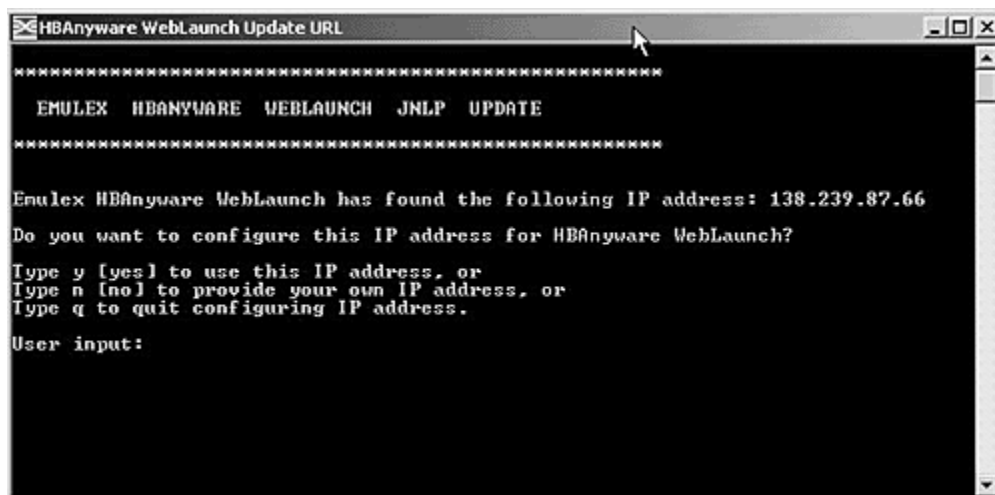

Figure 10: HBAnyware Web Launch, Update URL Dialog Screen
1. Click on **Programs**, **Emulex** and **HBAnyware WebLaunch Update URL**. The console window in Figure 10 appears